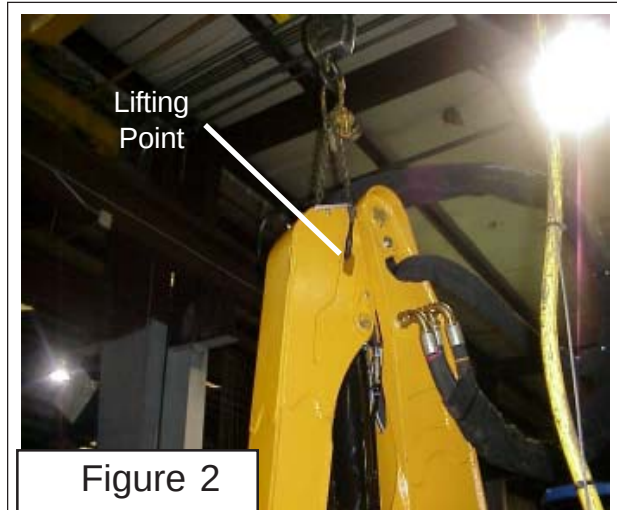

Figure 2
3. Boom Lift Cylinder. The boom lift cylinder will be connected to the boom at the rod end of the cylinder (See Figure 2 & 4) when it is shipped from factory. The hoses will also be connected to the cylinder. The retaining pin for the lift cylinder will be located in the turret assembly. The Lift Cylinder will be fastened to boom with tie wire. It will not be required to remove this tie wire before mounting boom on turret assembly. -
5. Lower Boom onto Turret Assembly. Using an over head hoist lift the boom by placing a lift strap at the boom hinge point (See Figure 2), the boom assembly will be shipped with the two boom end tie wired together (See Figure 3A). The wire tie will need to be removed as it is tied through the boom hinge pin hole. Lift the boom above the turret assembly and lower it back down onto the turret assembly aligning the boom with the mounting pin hole. Install the Mount Pin through the turret and into the boom. Make certain the pin is installed correctly as one side of the pin is self locking in design. Tighten the pin retaining nut and install cotter pin. (See Figure 3C)